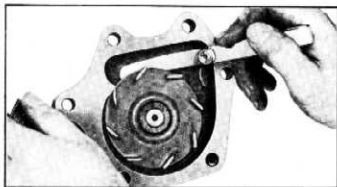

Fig. 128—Checking Clearance Between Face of Rotor and Pump Body
6. Check clearance between face of rotor and pump body (fig. 128). This clearance should be .010" to .035".